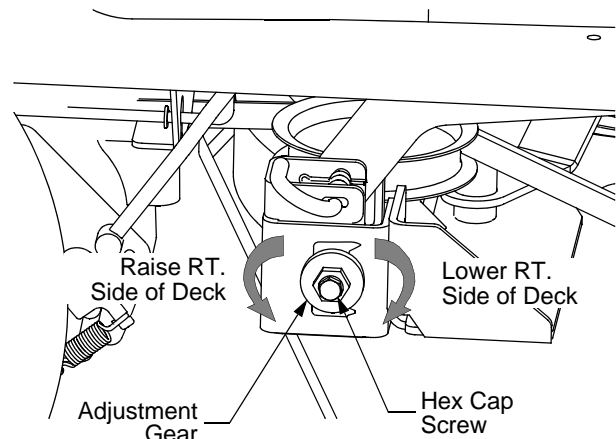

Figure 28
- Loosen, but do not remove, the hex cap screw on the right deck hanger bracket. Refer to Figure 28.
- Level the deck by using a wrench to turn the adjustment gear (found immediately behind the hex cap screw just loosened) clockwise to lower the right side of the deck, or counterclockwise to raise the right side of the deck. Refer to Figure 28.